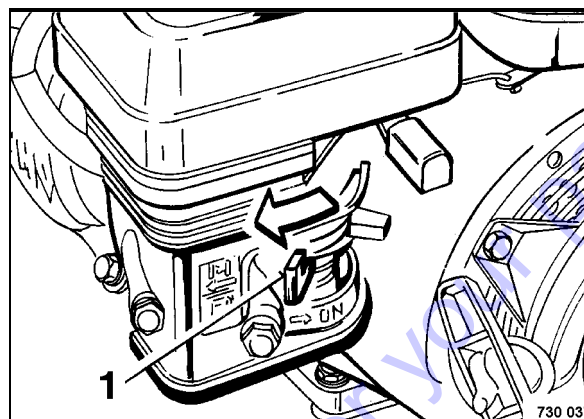

Fig. 21
- Close fuel cock 1 (Fig. 21) by turning in direction of arrow.